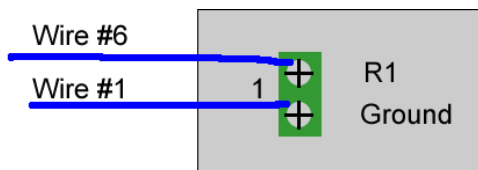

Fig 1. Wire connections for two-position MX Series II Modules. Wire colors will vary.
- (1) When the logic state is changed to OPEN, (HIGH or OFF), the valve will rotate to position 1. When the logic state is changed to CLOSED, (LOW, ON, or GROUND), the valve will rotate to position 2.
- (2) Wire the interface cable to the instrument for 1 line control (see fig 1)
- (3) See page 12 for 1-line level logic generic time programming example. (Note- the actual programming will vary depending on the manufacturer of the instrument used.